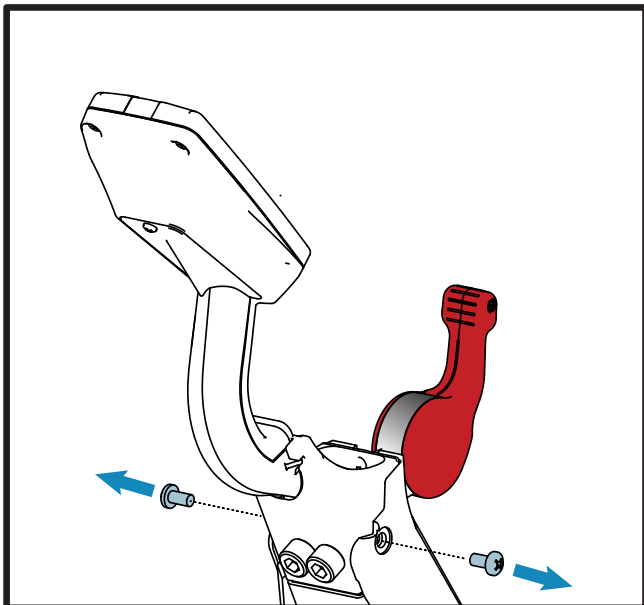

Figure 13. Remove Screws From Sweat Guard
1. Remove screws from both sides of the sweat guard, refer to Figure 13.